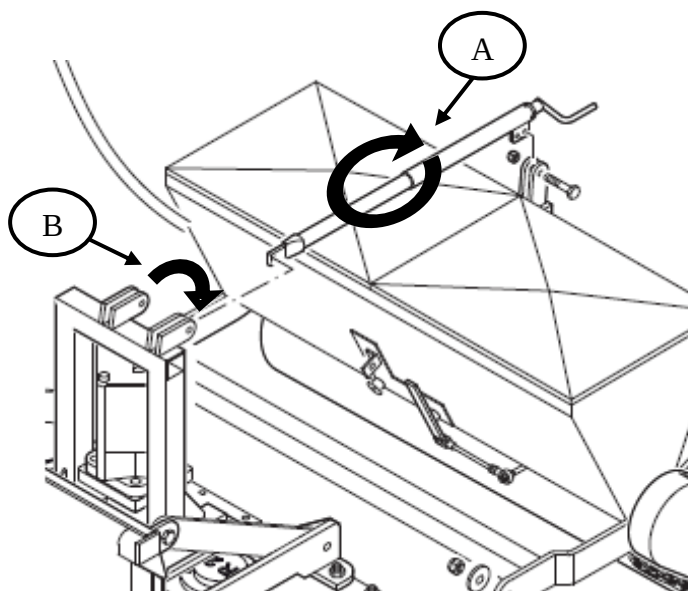

Fig. 11
- 2- Assemble the seeder unit in place of the roller unit using the same attachment points (Fig.10a – Fig. 11). Tighten the bolts so that the seeder bracket and the screw adjuster can slide along the attachment points (tighten the bolts, then loosen them $\frac{1}{4}$ turn); for this operation, we recommend using manual adjustable wrenches.